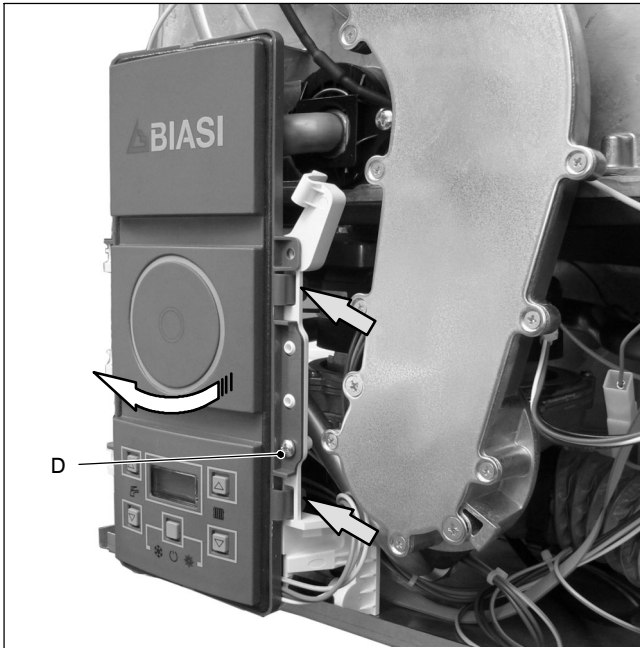

Fig. 2.5
- 2 Unscrew the screw D (Fig. 2.5)
- Free the hooks indicated and rotate the lid towards left (Fig. 2.5).